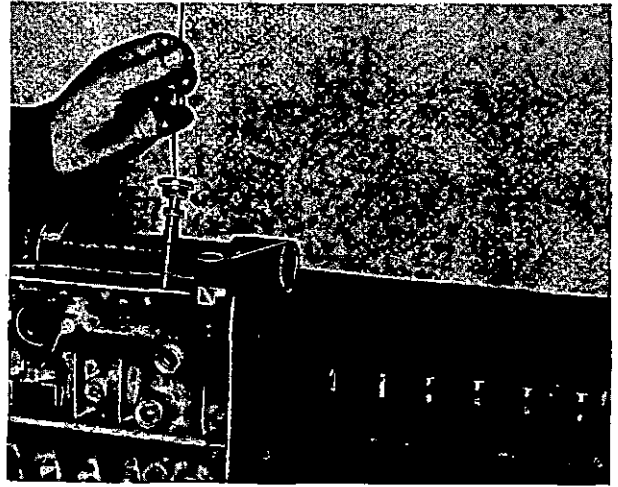

Fig. 14 Withdrawing plunger and lower spring plate
11. Withdraw the roller tappets (fig. 13), use a wire hook to lift out the spring plate and pump plungers (fig. 14) and take out the plunger springs (fig. 15). Place each assembly in the appropriate compartment of its storage tray.